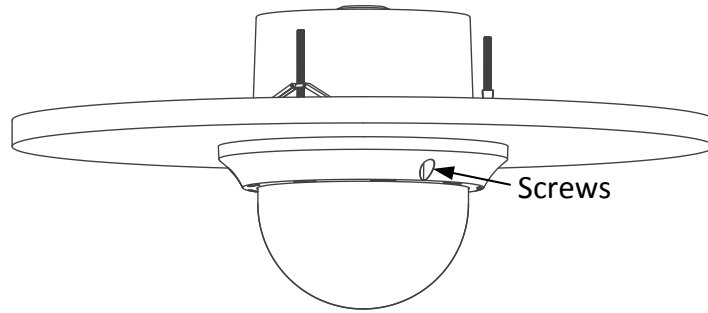

Figure 3-17 Install the Lower Dome
7. Secure the lower dome to the back box with three screws as shown in Figure 3-17.